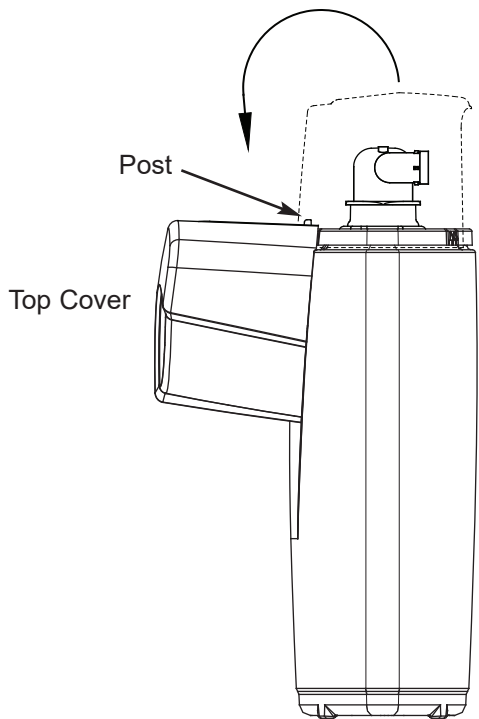

FIG. 6
- Unsnap the top cover from the rim by pulling back on both corners at the bottom of the rear opening. Lift off the top cover and either set it aside or hang it from the post on the rim (See Fig. 6).